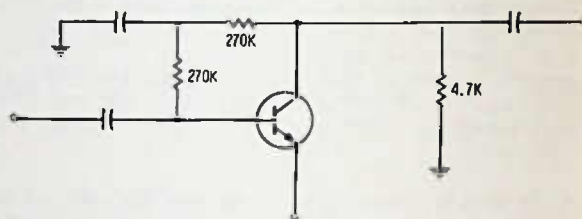

Fig. A-10.
21. A. The resistor provides stabilized bias because of its collector connection, but also provides some audio feedback, since the output is connected to the input through the resistor. Fig. A-10 shows how the circuit could be modified if the audio feedback were not desirable.